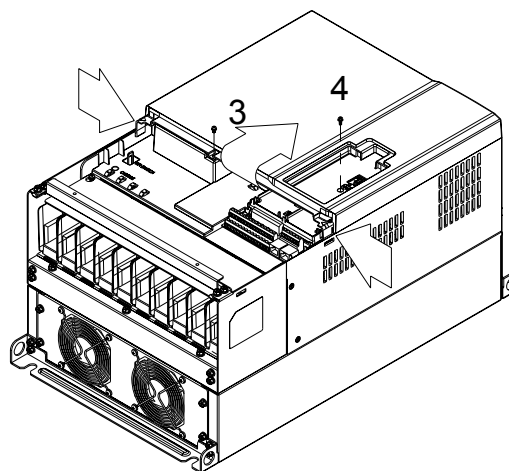

Figure 2
- (Figure 2) Loosen screw 3 and screw 4, press the tab on the right and the left to remove the cover. Screw torque: 6~8kg-cm (5.2~6.9in-lbf).